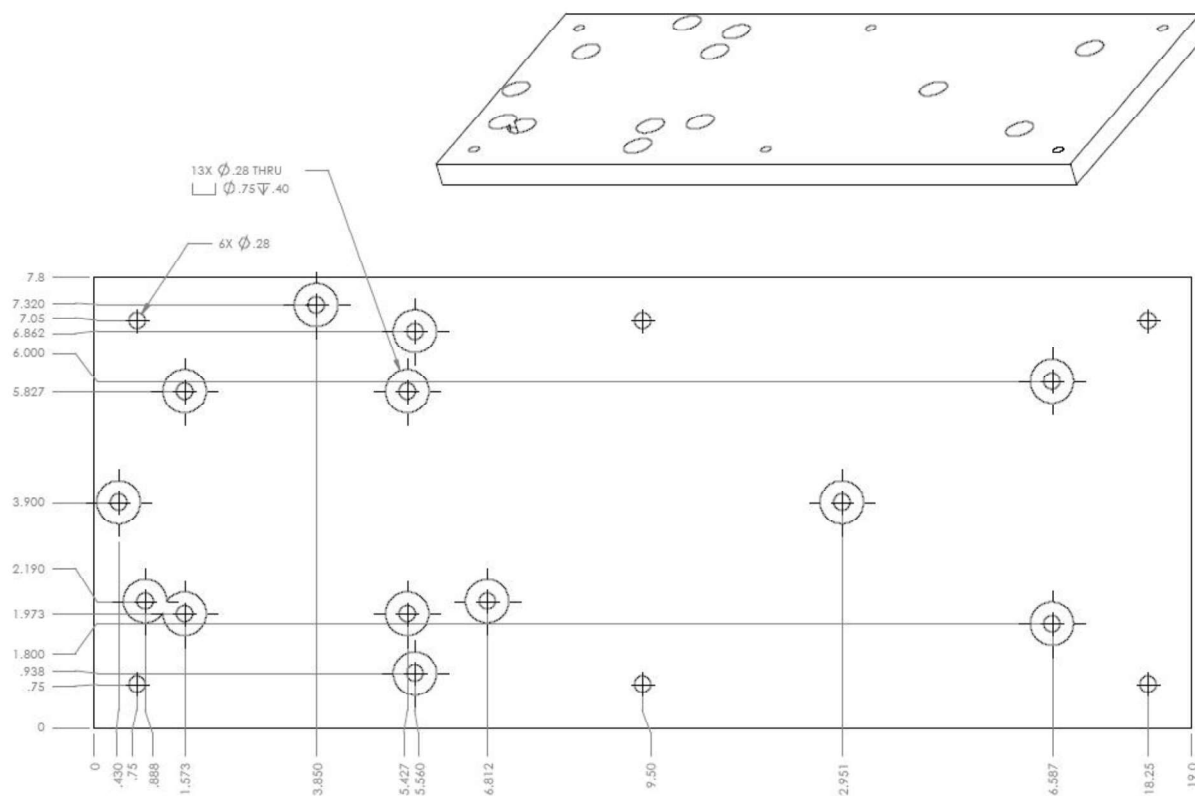

Figure 5-9. Mounting plate dimensions for external battery housing and 1500 or 3000-kHz Argonaut-SL
- A drawing of the mounting plate is shown in **Figure 5-9**.